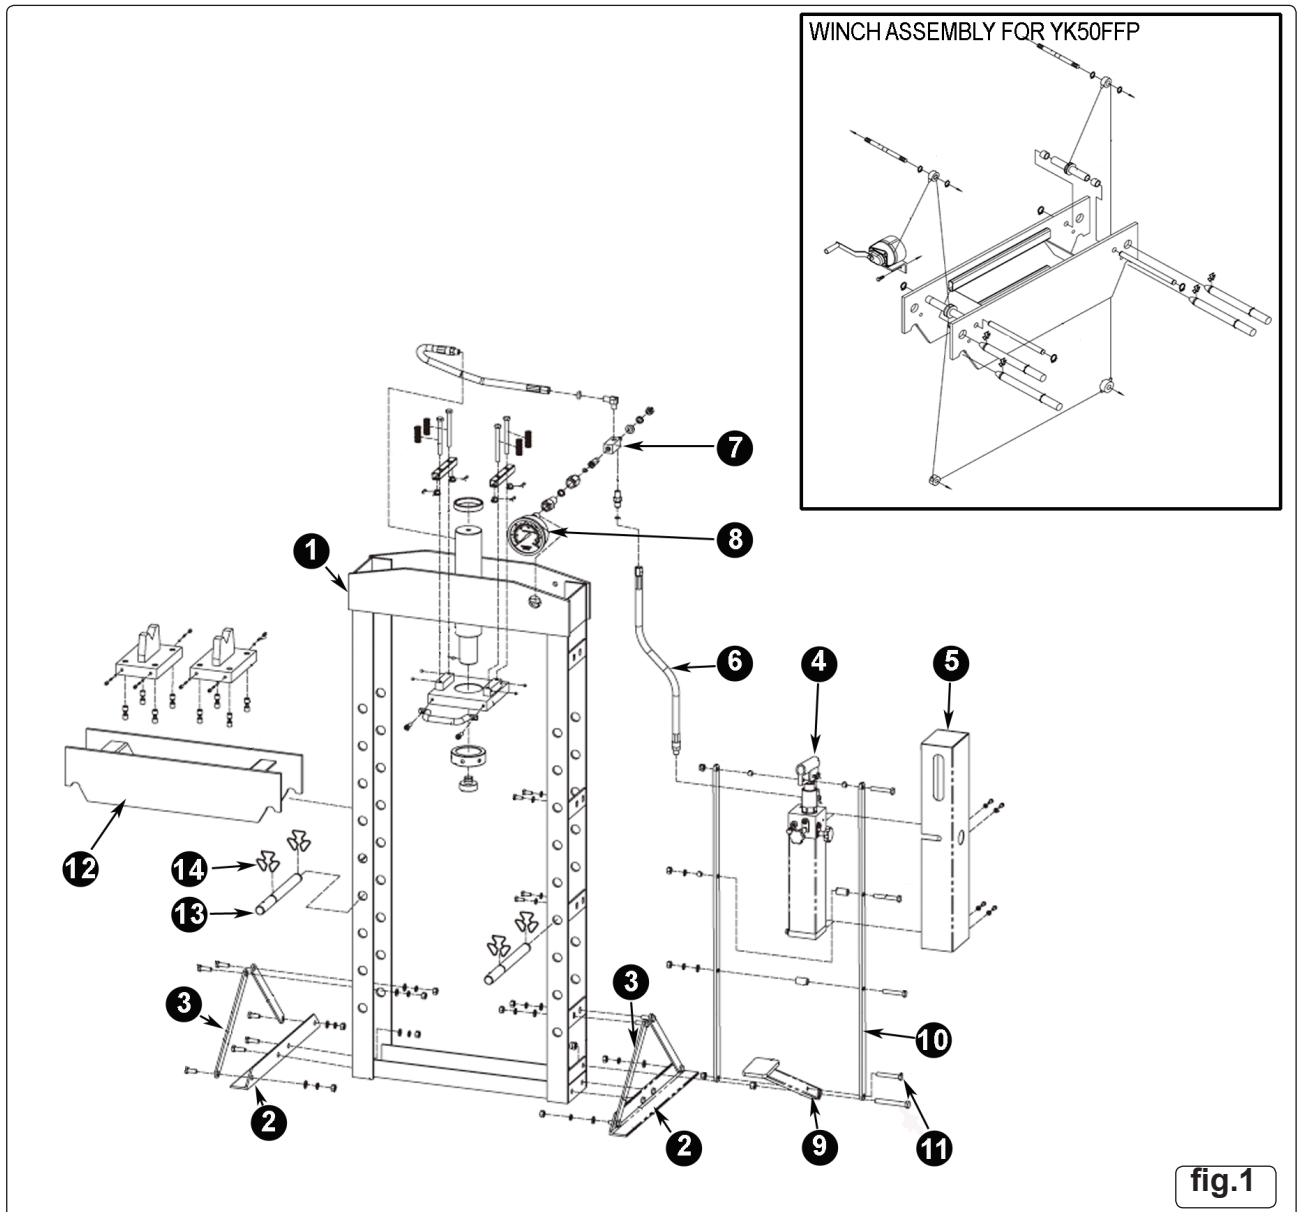

fig.1
#### 3.1 PRESS ASSEMBLY (refer to fig.1 as a guide to assembly)
- 3.1.7 **(YK50FFP only)** Move the hand winch from the inside of the left hand post of the main frame (1) and attach to the outside of the left hand post of the main frame (1). Ensure that the cables are located correctly in the rollers before fully tightening (See inset fig.1). Fit the plastic return pipe from the hydraulic unit (fig.2) to the back of the hydraulic ram (fig.3).